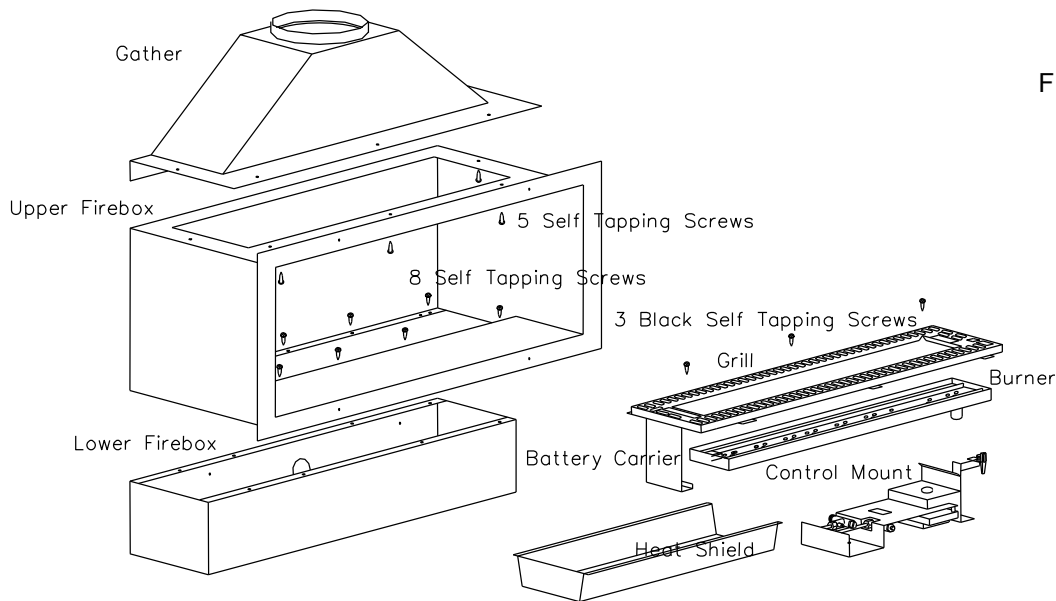

FIGURE 4
- 5 The firebox is made in two sections, the lower part which houses the gas control and the upper part which is the actual firebox and provides containment of the flame and products of combustion. See Figure 4.